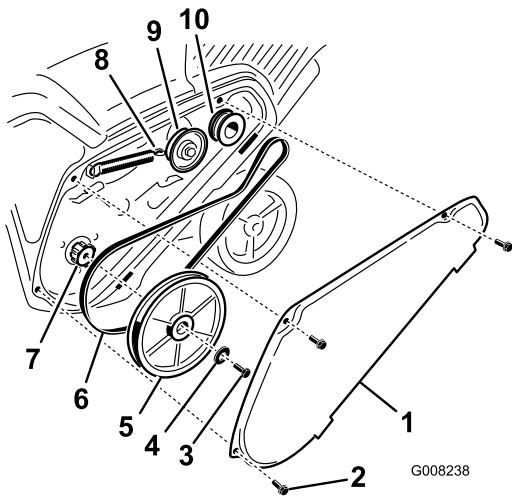

Figure 31
1. Remove the drive-belt cover by removing the 3 bolts as shown in Figure 31.
- Unhook the brake spring from the idler arm to release the belt tension (Figure 31).
- Remove the screw and curved washer that holds the rotor pulley (Figure 31).
- Remove the rotor pulley and the drive belt (Figure 31).
**Note:** Route the new drive belt first around the engine pulley, then the idler pulley, and finally around the loose rotor pulley positioned just above the rotor shaft (Figure 31).
- Install the rotor pulley onto the rotor shaft (Figure 31).
- Install the curved washer and the rotor-pulley bolt and tighten them securely (Figure 31).